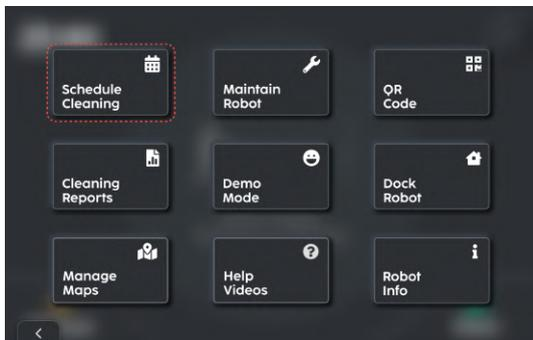

FIGURE 6-26
2. Select the 'Schedule Cleaning' (Fig. 6-26).